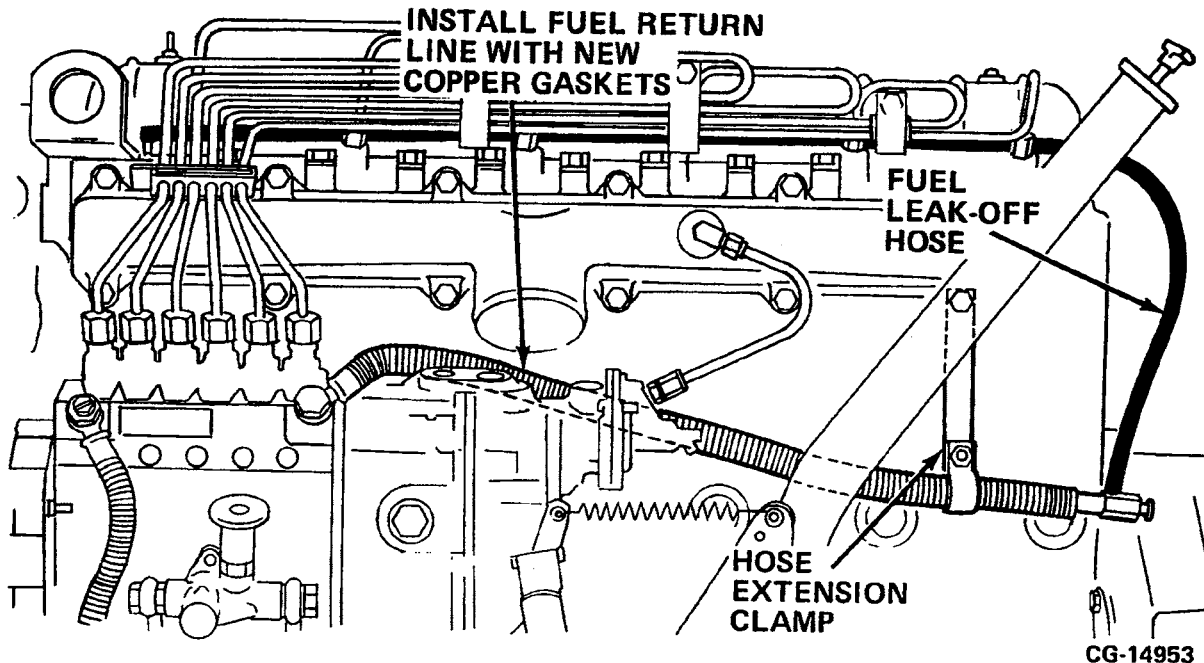

Figure 11.36. Fuel Return Tube and Clamp Installation
- b. Install the clamps, washers, spacers and fuel return tube. Tighten the "patch" stud bolts to the specified special torque. Refer to Figure 11.36.
- c. Reconnect the fuel return tube to the pump using new copper gaskets and hollow screws at the banjo fitting. Refer to Figure 11.36.